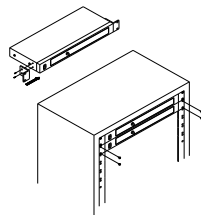

Fig. 5
- (c) Place the microphone at least 1 meter away from the receiving antenna, as shown in Fig. 5.
6. Screw two rackmount brackets on receiver case sidewalls and mount to an EIA standard rackmount case, as shown in fig. 5. As an accessory, you may purchase from MIPRO a front antenna rackmount brackets, which can be mounted easily as front antenna, extending from the rear antenna connector.